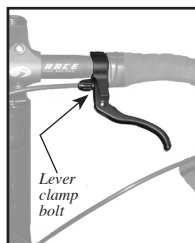

Figure 28- Mid-bar brake lever
- On mid-bar levers (Figure 28) to 20-30 lb•in (2.3-3.3 Nm).